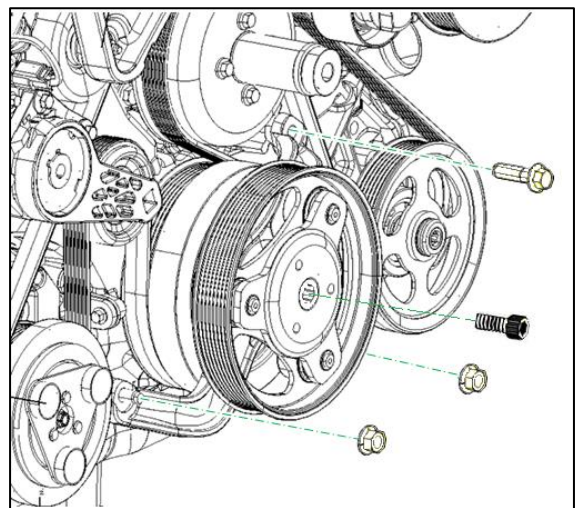

Figure 2
- Remove PTO assembly (Figure 2)
- Remove and retain two (2) 15mm nuts
- Remove and retain one (1) 13mm capscrew
- Remove and retain one (1) 14mm Allen bolt ****LEFT HANDED THREAD****